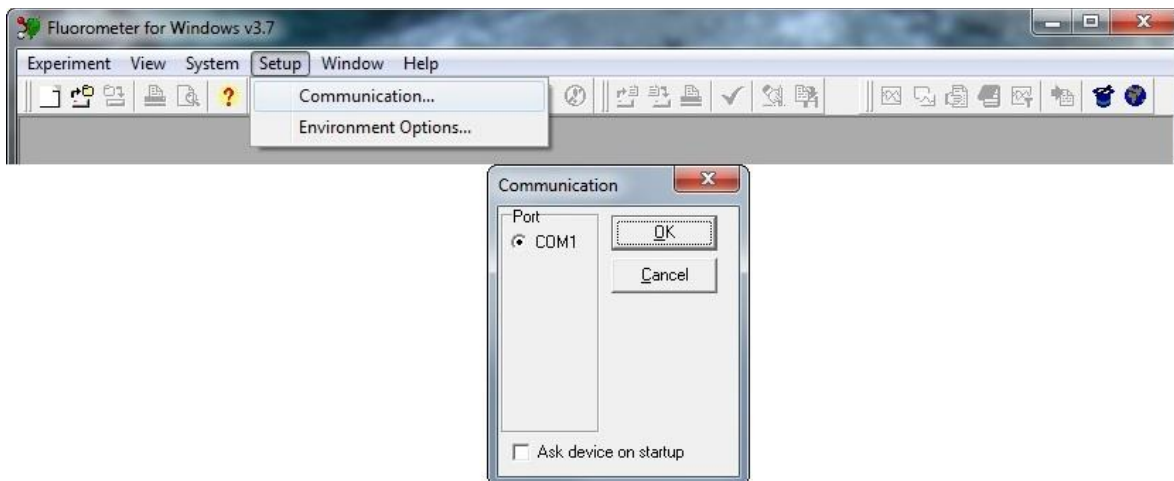

Fig. 12 Communication setting.
- Go to the top line menu and select **Setup > Communication...** Program will start scanning all installed ports on your computer. Not used ports are disabled. Select the COM port (i.e. COM1) to which you have connected the Fluorometer and click OK (Fig. 12).